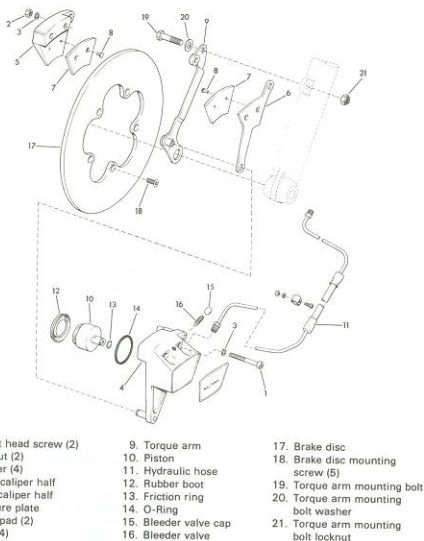
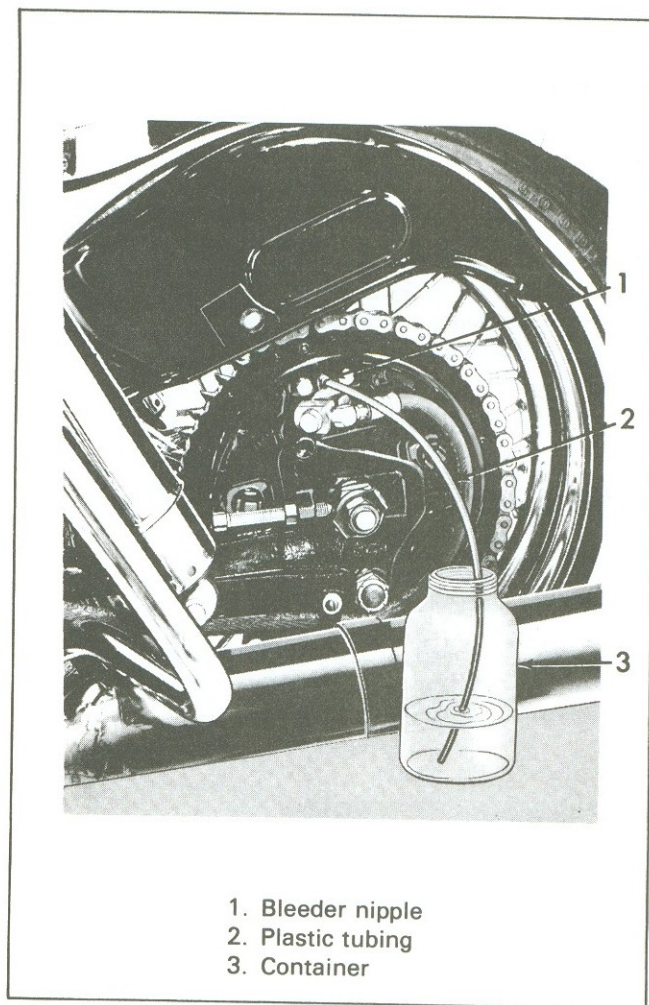

Figure 2-66. Front Disc brake, 1974 to 1977 FX/FXE
Figure 2-69. Bleeding Hydraulic Brake System
REASSEMBLING DISC BRAKE CALIPERS - 1972 AND LATER FL/FLH FRONT AND REAR, 1973 FX FRONT AND REAR, 1974 AND LATER FX/FXE/FXS REAR ONLY (Figure 2-66)
DISASSEMBLING FRONT DISC BRAKE CALIPER - 1974 TO 1977 FX/FXE (Fig. 2-66)
REASSEMBLING FRONT DISC BRAKE CALIPER - 1974 TO 1977 FX/FXE (Figure 2-66)
1. After servicing hydraulic brake system where any hydraulic line or cylinder is opened, it is necessary to bleed the system to expel all air. See Figure 2-69.
2. Slip a length of appropriate size plastic tubing (2) over wheel cylinder bleeder nipple (1, Figure 2-69; 16, Figure 2-65 and 15, Figure 2-66). Immerse the other end in any container (3) containing brake fluid.